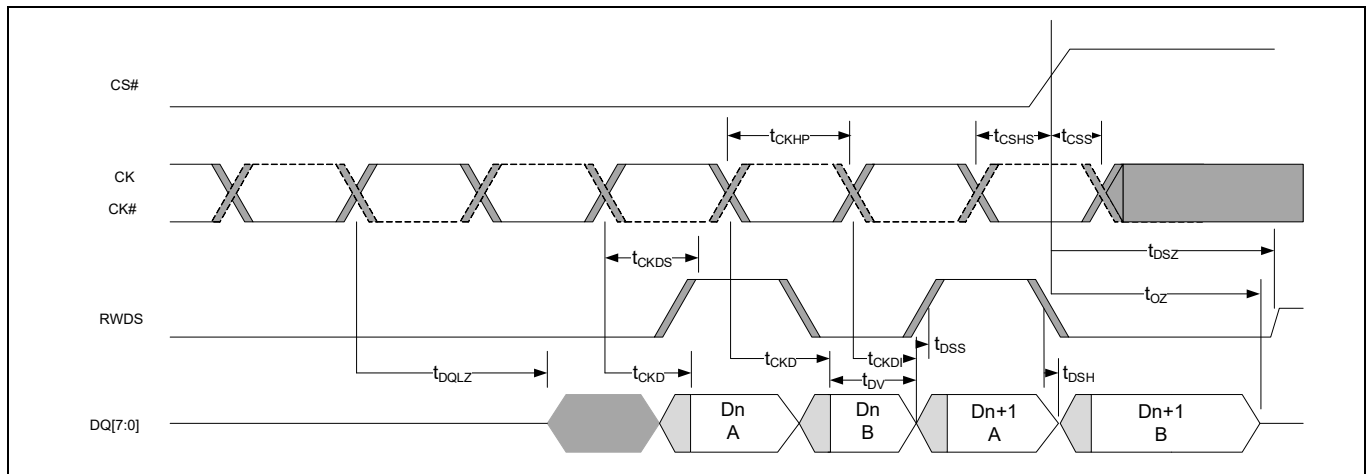

Figure 32 Data valid timing^[55-57]
52. Refer to Figure 32 for data valid timing.
- 54. Refer to **Figure 32** for data valid timing.